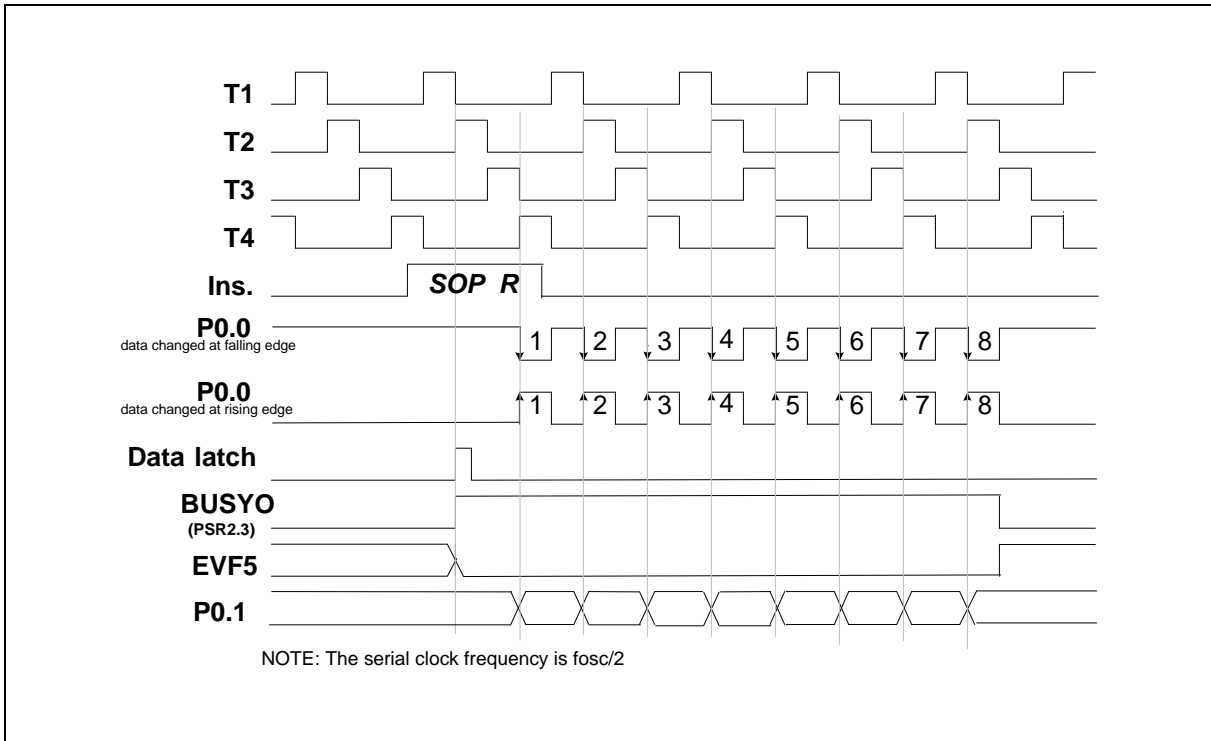

Figure 5-13 Timing of the Serial Output Function (SOP R)
(2) When the **SOP R** instruction is executed, the data will be loaded to the serial output buffer (SOB) from ACC and the RAM, the low nibble data of SOB is from ACC register and the high nibble data is from RAM, and bit 3 of port status register 2(PSR2) will be set to "1" ( $BUSY_O = 1$ ). Then the P0.0 pin will send out 8 clocks or accept 8 clocks from external device and the data in SOB will be sent out at the rising or falling edge of the P0.1 pin. After the 8 clocks have been sent,  $BUSY_O$  will be reset to "0" and  $EVF.5$  will be set to "1." At this time, if  $IEF.5$  has been set ( $IEF.5 = 1$ ), an interrupt is executed; if  $HEF.5$  has been set ( $HEF.5 = 1$ ), the hold state is terminated. Users can check the status of PSR2.3 ( $BUSY_O$ ) to know whether the serial output process is completed or not. If a serial output process is not completed, but the SOP R instruction is executed again, the data will be lost. The timing is shown in Figure 5-13.